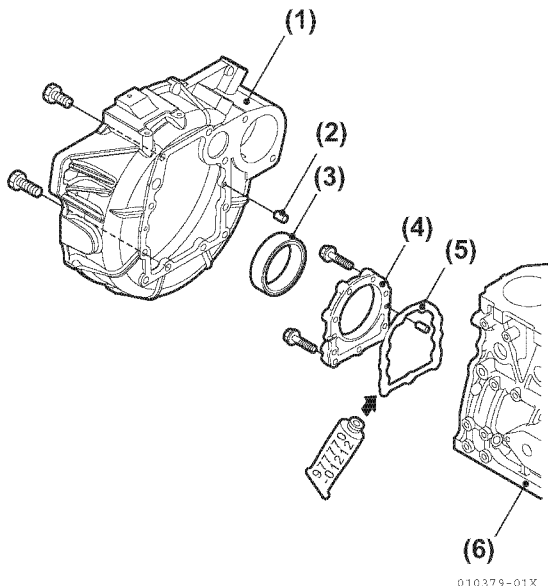

Figure 5-133
8. Install a new oil seal. Press the oil seal in the oil seal case. Coat the lip of the oil seal with engine oil (Figure 5-133).
9. Apply liquid gasket to the mounting surface of the oil seal case. Mount the oil seal case to the cylinder block, while matching up the cylinder block positioning pins (Figure 5-133).
10. Mount the flywheel housing to the cylinder block, while matching up with the cylinder block positioning pins (Figure 5-133).